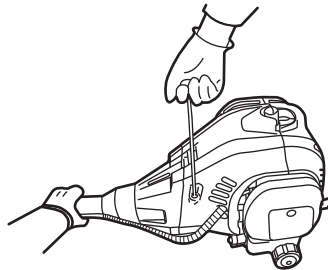

Fig. 12d
5. Pull the recoil starter handle (A7) firmly; repeat until the engine starts. (See Fig. 12d)